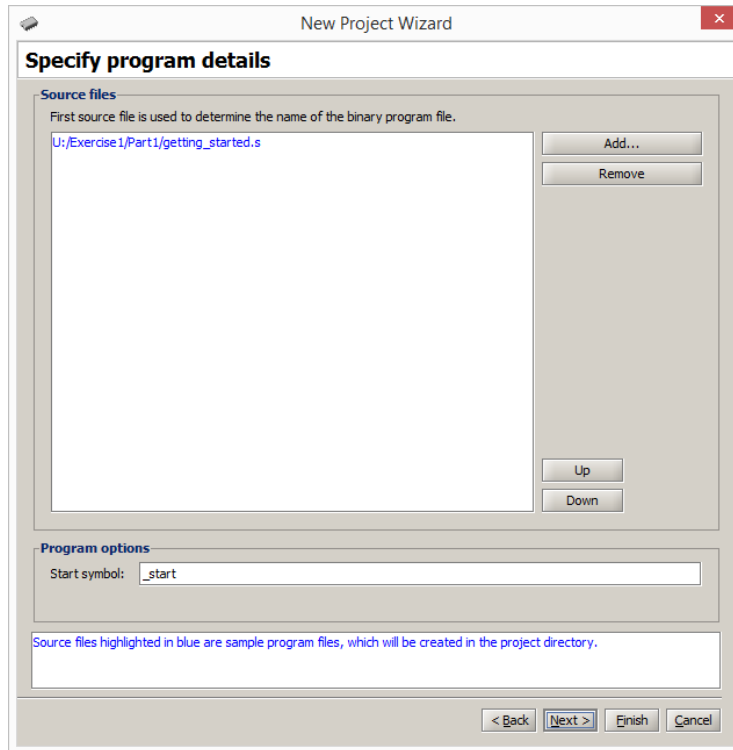
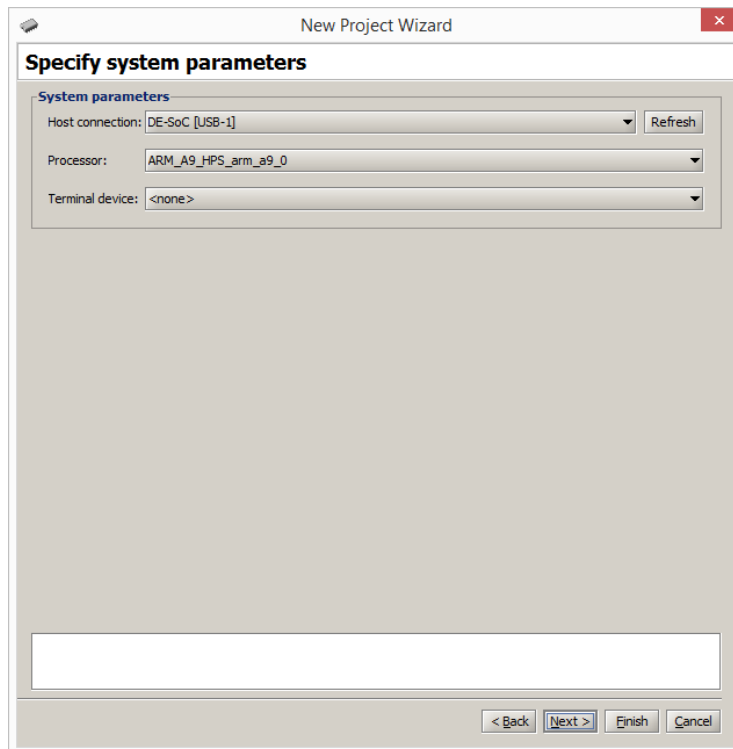
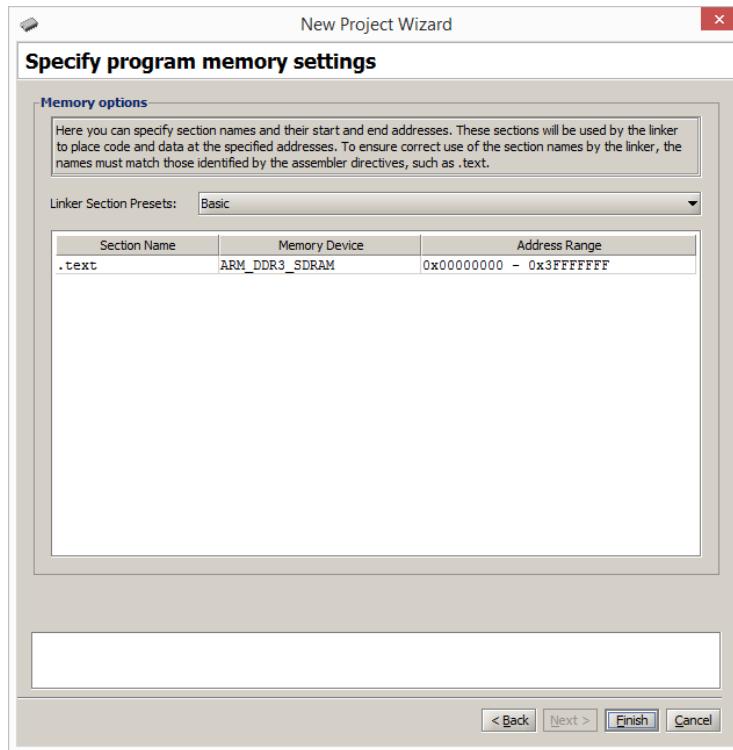

Figure 5: Source files used by the application program.
Figure 6: Specify the system parameters.
Figure 7: Specify the program memory settings.
5. The window in Figure 5 is used to specify the source file(s) that contain the application program(s). Since we have selected the *Getting Started* program, the window indicates the source code file for this program. This window also allows the user to specify the starting point in the selected application program. The default symbol is `_start`, which is used in the selected sample program. Click **Next**.
6. The window in Figure 6 indicates some system parameters. Note that the figure indicates that the *DE-SoC [USB-1]* cable is selected to provide the connection between the DE-series board and the host computer. This is name assigned to the Altera USB-Blaster connection between the computer and the board. Click **Next**.
7. The window in Figure 7 displays the names of Assembly sections that will be used for the program, and allows the user to select a target memory location for each section. In this case only the *.text* section, which corresponds to the program code (and data), is defined. As shown in the figure, the *.text* section is targetted to the DDR3 memory in the DE1-SoC Computer, starting at address 0. Click **Finish** to complete the specification of the new project.
2. Upon reaching the window in Figure 5, you have to specify the source code file for your program. Click **Add** and in the pop-up box that appears indicate the desired file name, *part2.s*. Click **Next** to get to the window in Figure 6. Again click **Next** to get to the window in Figure 7. Notice that the **DDR3_SDRAM** is selected as the memory device. Your program will be loaded starting at address 0 in this memory. Click **Finish**.